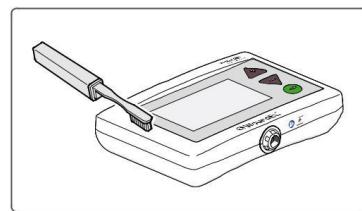

Figure 34. Detach visible dirt with a suitable tool
2. Carefully detach visible dirt from the WoundEL® device and/or the connection sockets mechanically using a suitable tool (e.g. a soft brush), *see Figure 34.*